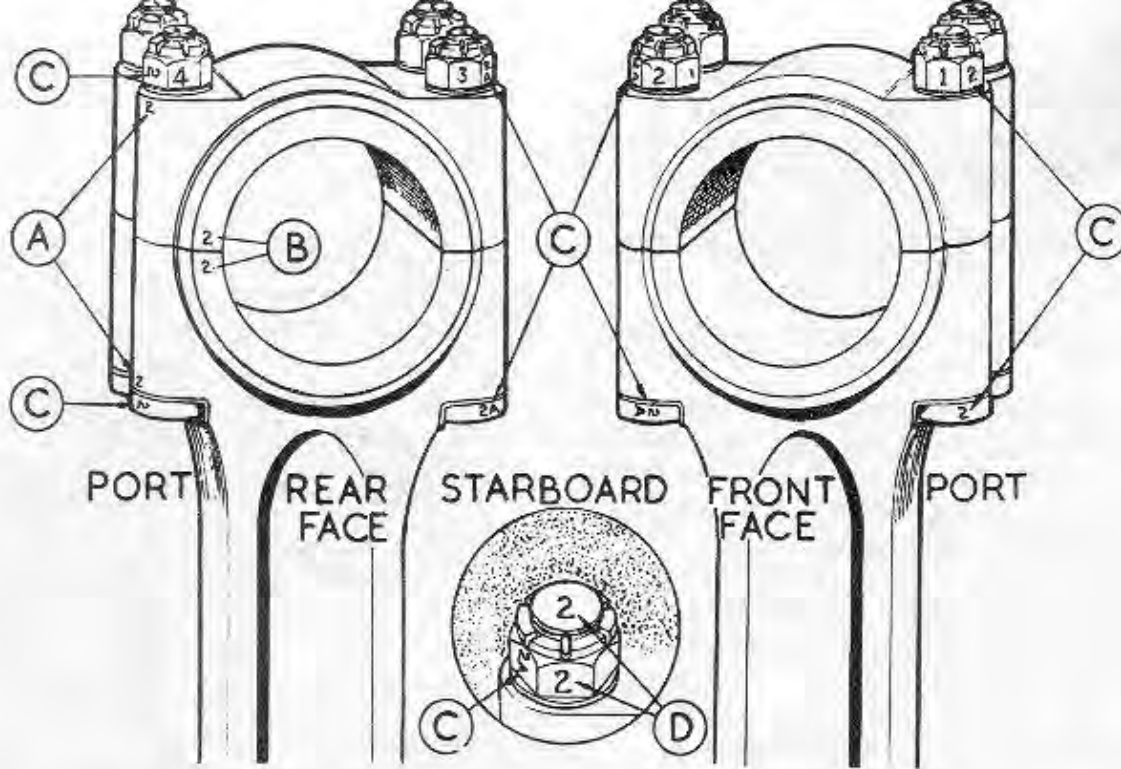

Fig. 8. Identification marks on connecting rod parts
47. The connecting rods, caps, bolts, nuts and bearings should have been kept in sets. The identification of the components in each set should be checked to ensure that they correspond with the correct markings described below and illustrated in fig. 8.
- (A) Connecting rod number is marked on both cap and rod. Connecting rods are numbered 1, 2, 3, and 4, commencing with that nearest the propeller. These numbers must be on the port (camshaft) side when the connecting rod is in the engine.
- (B) Big-end linings are marked with the number of the connecting rod to which they belong. These numbers must face towards the rear of the engine.
- (C) The head of each bolt and one flat of each nut is marked with the number of the connecting rod to which they belong. To identify